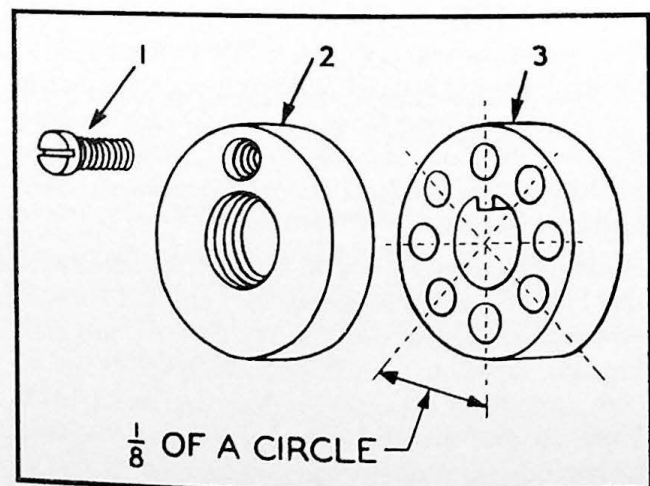

FIG. 52 Worm Shaft End Play Adjustment Collar
For the removal of the remaining gear shafts, no special instructions are required. The worm shaft thrust collar adjustment is the same as that shown in Fig. 52.
Remove dog screw (1) in collar (2), Fig. 52. By turning threaded collar (2) and entering screw in next hole in thrust washer (3), adjustment of one-eighth of a revolution is possible.
Remove dog screw (1) in collar (2) Fig. 52. By turning threaded collar (2) and entering screw in next hole in thrust washer (3), adjustment of one-eighth of a revolution is possible.